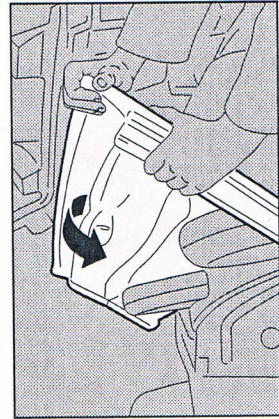

fig. 69
- lift the top and lay it on the front cross piece checking that the hooks of the locks are open on the vertical position **fig. 69**;